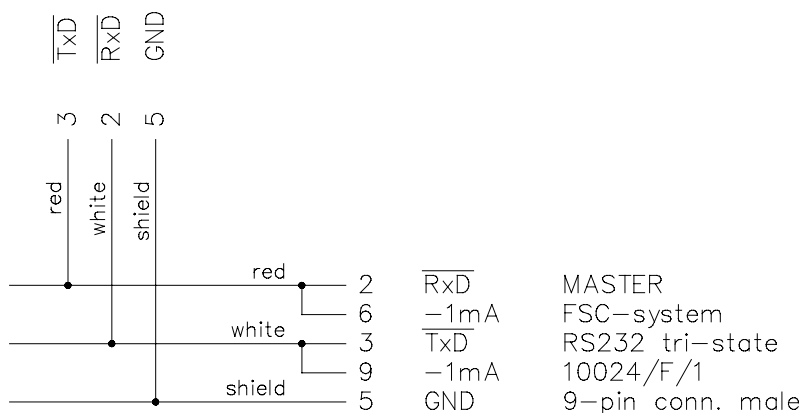

Figure 13 Connection between FSC master and max. 3 FSC slaves:
- **RS-232** communication (using an **F-interface**) (see Figure 13)